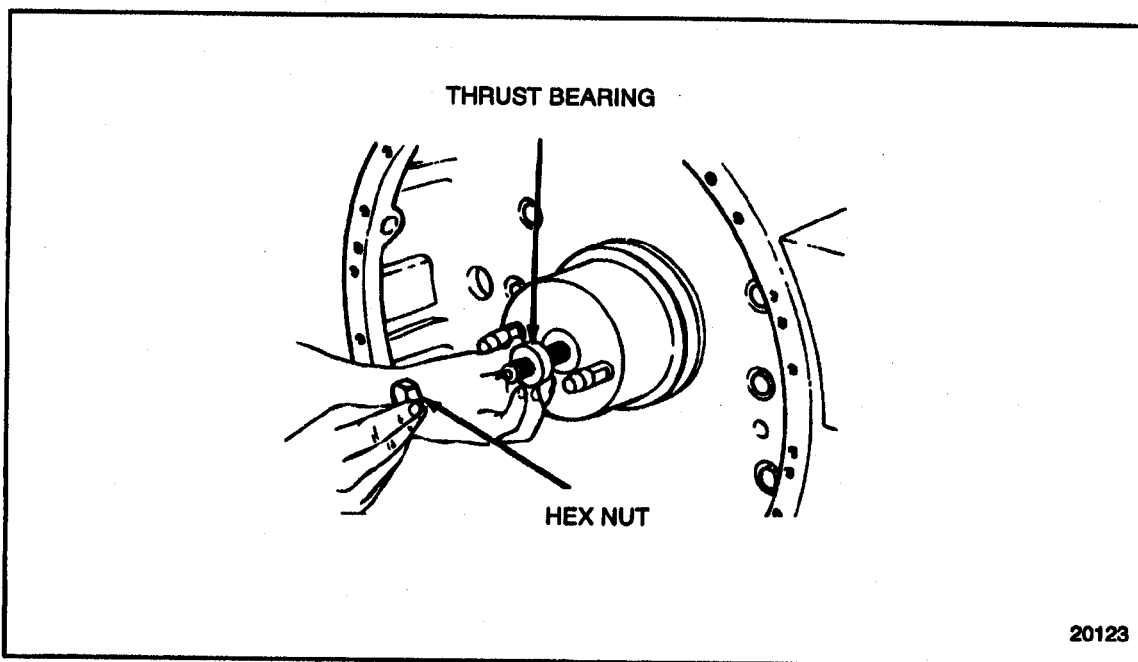

Figure 1-139 Thrust Bearing Installation
4. Install the thrust bearing tool with the case side toward the installer housing. Install the hex nut to the center screw of the base. See Figure 1-139.